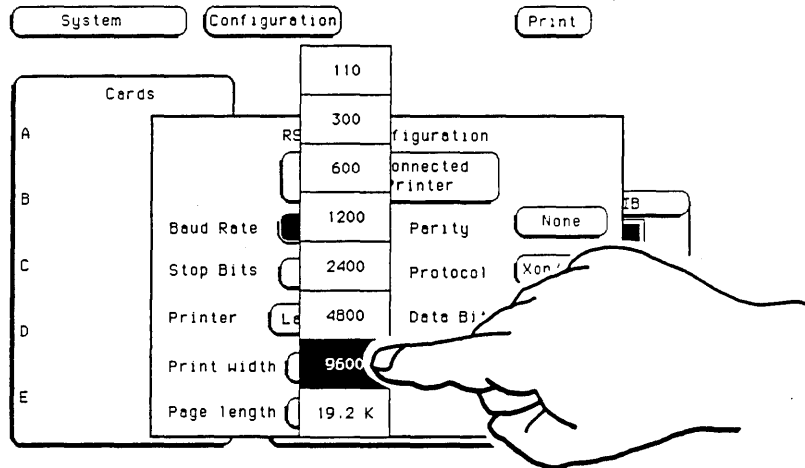

Figure 2-10. Baud Rate Pop-up Menu.
3. Touch the **Baud Rate** field and select the required rate (see figure 2-10). Make any other changes to the system configuration i.e. Parity, Printer Protocol etc. while you are in this menu.